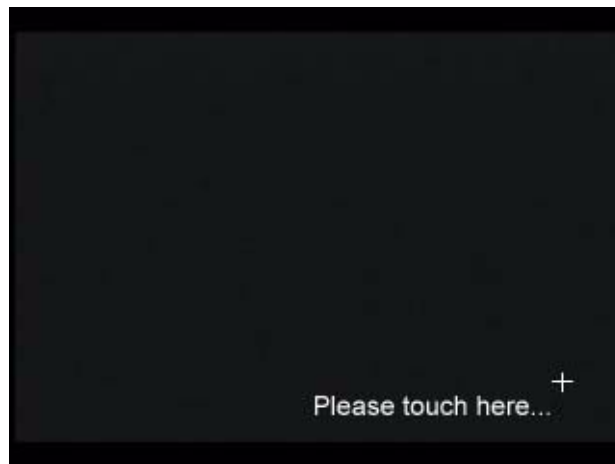

Figure 8.5 Second Calibration Screen
- 8 Tap the center of the crosshairs. The second calibration screen will appear. (Figure 8.5)